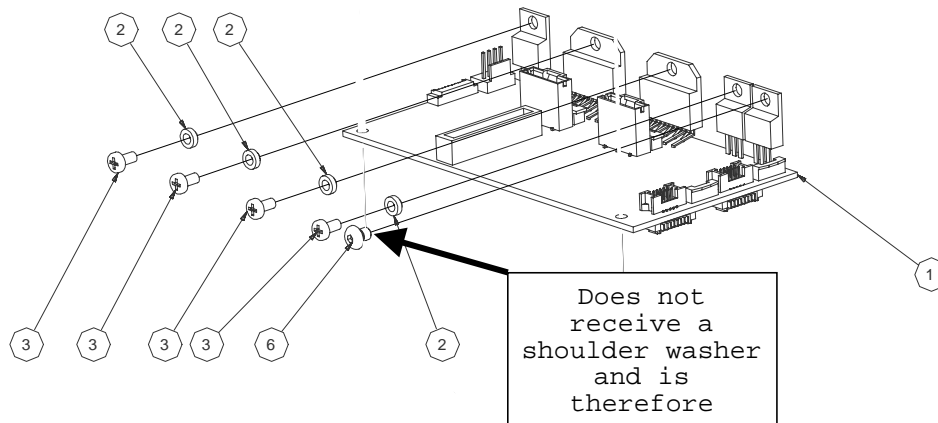

Figure 5.1: Mainboard Assembly Mounting
The mainboard assembly has insulating pads attached to the power devices. Attach the mainboard to the heatsinking / mounting surface with the screws provided as shown in Figure 5.1. Insert isolating washers (2) as shown and note that the device farthest from the power connector (or closest to the front in this view) should not have an isolating washer and thus will be electrically connected to the (grounded) mounting surface. Be sure that the exposed metal of the four devices receiving shoulder washers do not make direct contact with any conducting surfaces. When mounting, screws should be tightened to a torque of 16 in·lb (1.8 N·M) to ensure good thermal contact without damage to the insulating washers.